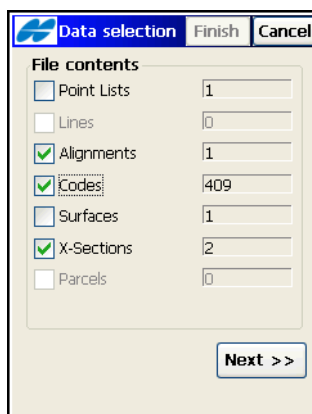

Figure 5-17. Import From LandXML
1. On the *Data selection* screen, select specific data type from the appropriate file (Figure 5-17).